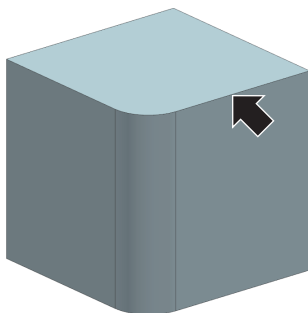

Fig 6-25 Edge to Select
4. Select the edges to apply the blend by clicking the edge designated by the arrow in Fig 6-25.